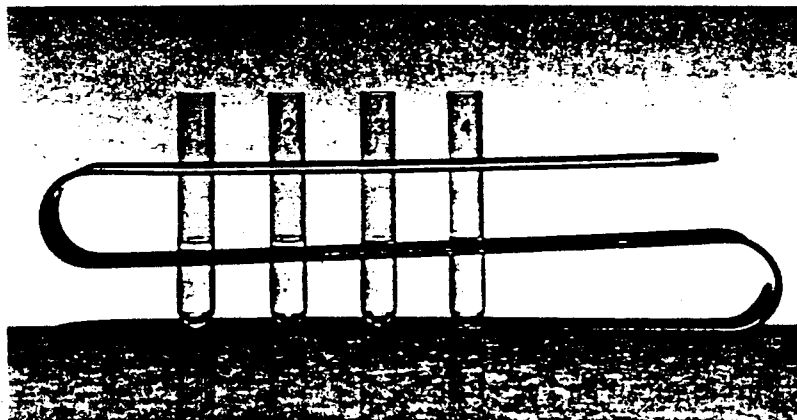

Figure 22.1. Number test tubes for identification
1. **Different Acids Affect Reaction Rates.** Into four numbered 75-mm test tubes (Figure 22.1) containing approximately 1 mL of 3 M H_2SO_4 , 6 M HCl , 6 M HNO_3 , and 6 M H_3PO_4 (**Caution:** *avoid skin contact with the acid*), place a 1-cm polished strip of magnesium ribbon. Compare the reaction rates and record your observations.